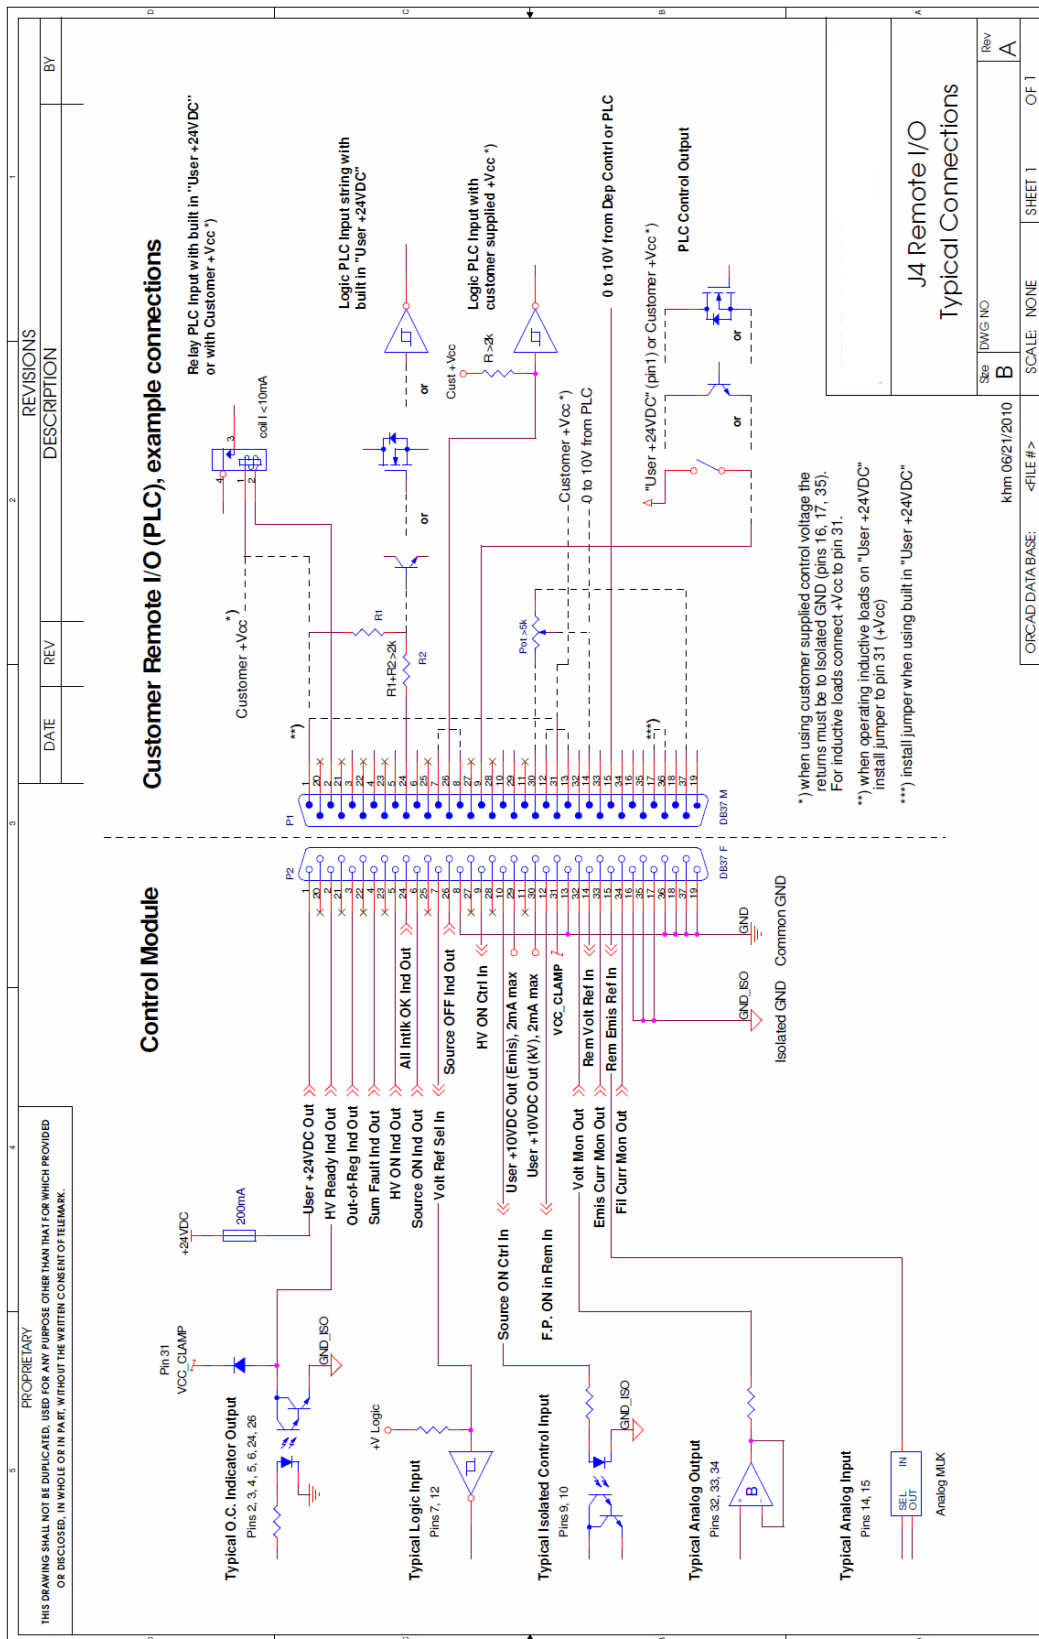

Figure 9-6, J4 Remote User I/O Connector
- Figure 9-6 Remote User I/O Connector